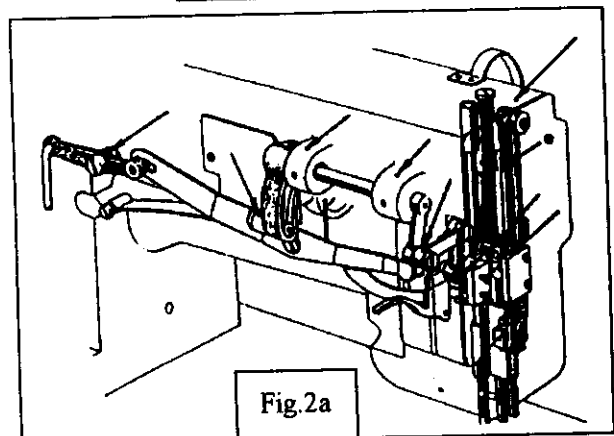
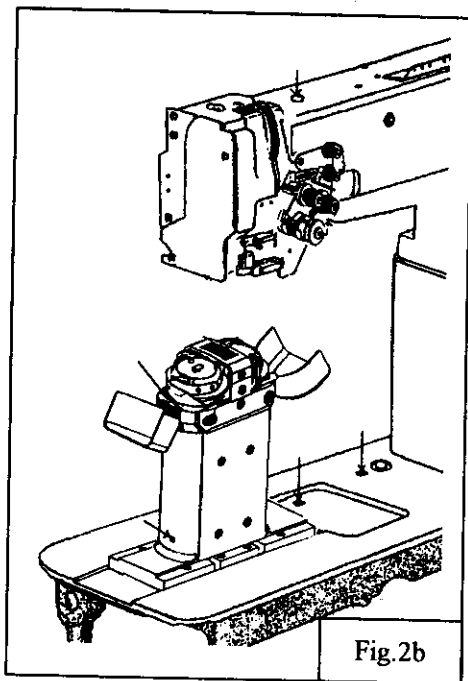

Fig.2a
Fig.2b
### 2. Lubrication (2) (Fig.2a, Fig.2b)